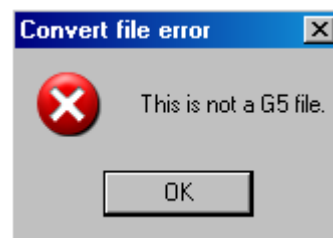

Figure 4.18: Select File Error
3. The File Open window (Figure 4.1) will appear. Select the G5 file you wish to convert by clicking on the file to highlight and then click on **Open**. If the file that is selected is not a G5 parameter file, a warning as shown in Figure 4.18 will appear and the conversion will abort.